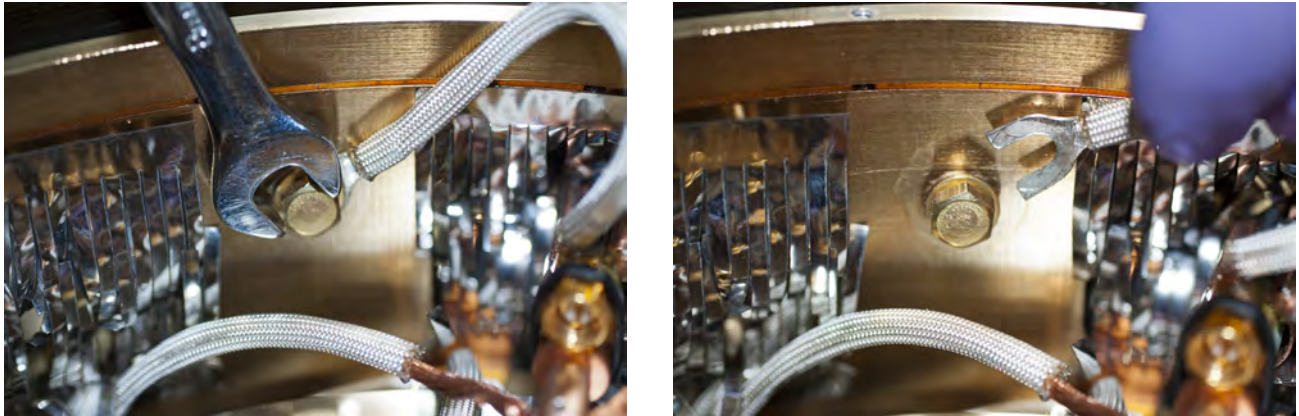

FIGURE 5-5 Left and Right: Use a wrench to remove the arm shield braids from the radiation shield
3. Use an 8 mm wrench to loosen the hex screws that hold the spade lugs at the ends of the arm shield braids to the radiation shield (FIGURE 5-5), but do not fully remove these screws. Slide the spade lugs from under the screw heads and let the arm shield braids fall.